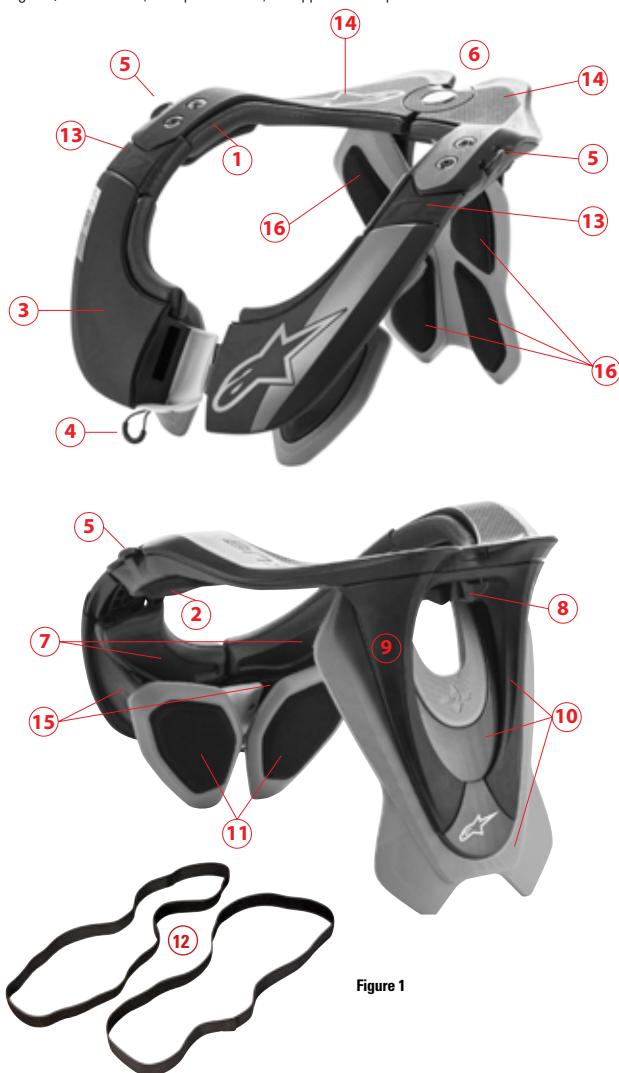

Figure 1
-  = Size reference marked on adapters (figure 1, part 13).